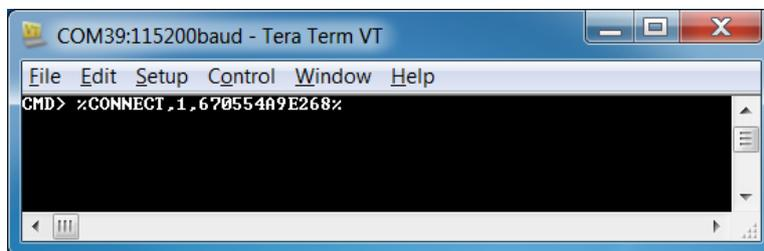

Figure 12: Connected Status Message
- b. The connection is also verified by “%CONNECT,1,<MAC>” status message returned by the RN487x UART. The <MAC> is the address of the remote BT device that initiated the connection. See the response in the terminal emulator as shown in figure 12.